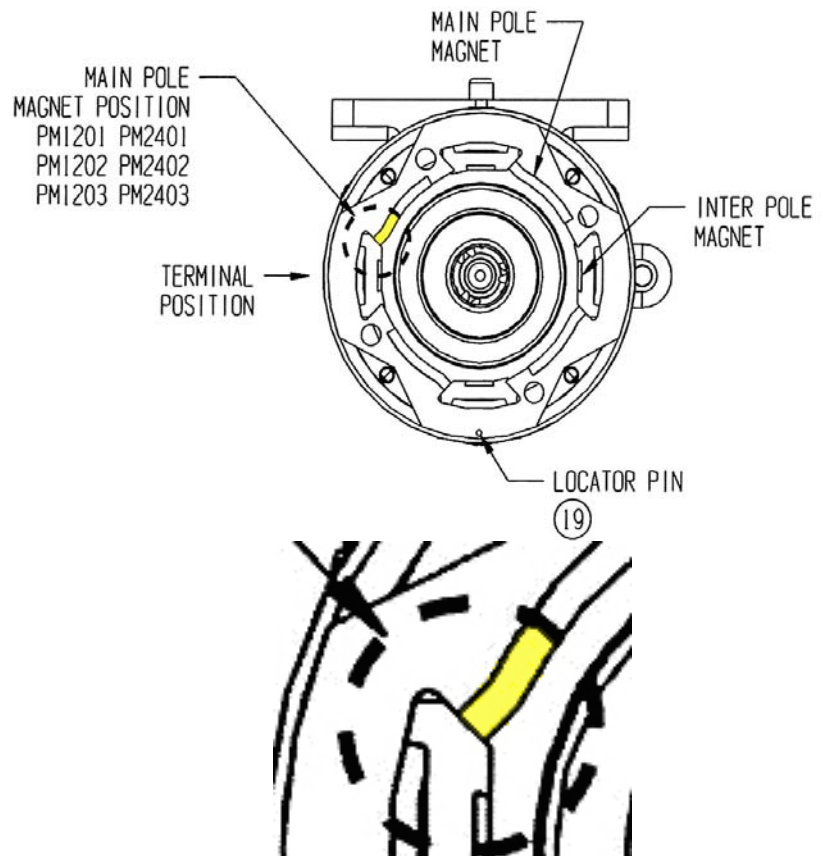

Fig 16: Flux Ring Orientation (right hand rotation)
A) For Starter part numbers; PM1201 PM2401, PM1202 PM2402, PM1203 PM2403, refer to Fig 16 for proper Flux Ring orientation.